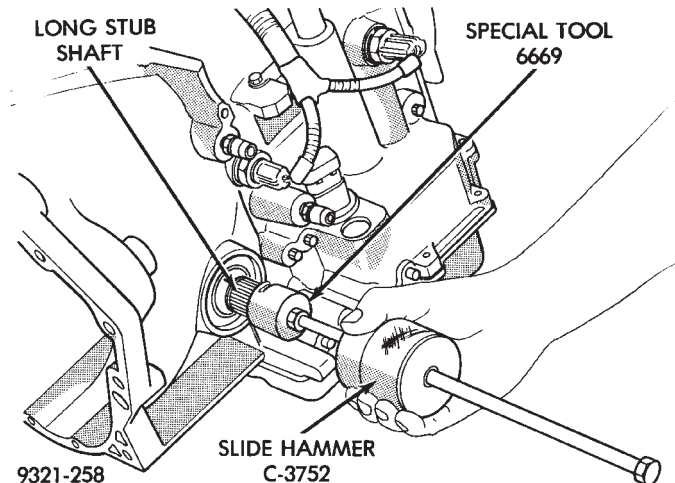

Fig. 60 Long Stub Shaft Removal
(1) Remove transaxle from vehicle. Refer to Transaxle Removal and Installation procedure in this section.
(2) Remove long stub shaft from transaxle (Fig. 60).